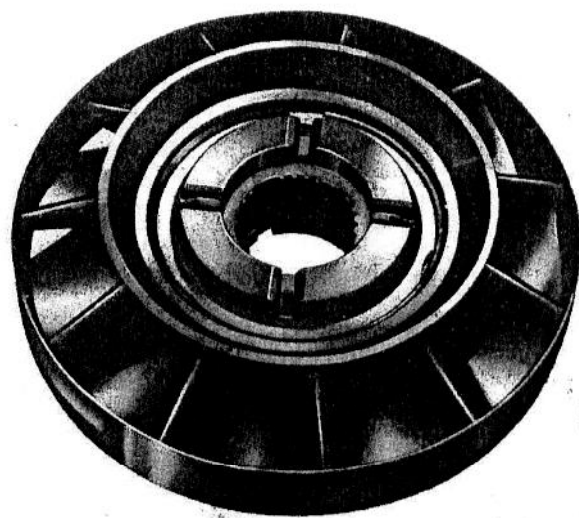

FIG. 12
7. (Fig. 12) Replace the second thrust washer and lock in place with the snap ring.